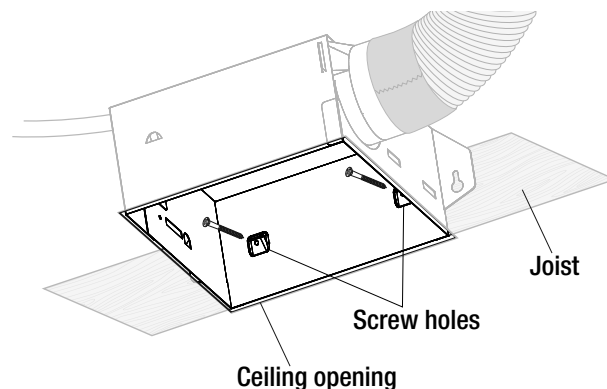

Fig. 13
- Ensure the housing is fastened securely, then reinstall the motor mounting assembly. Plug the motor into the receptacle. See figure 13 and 14.